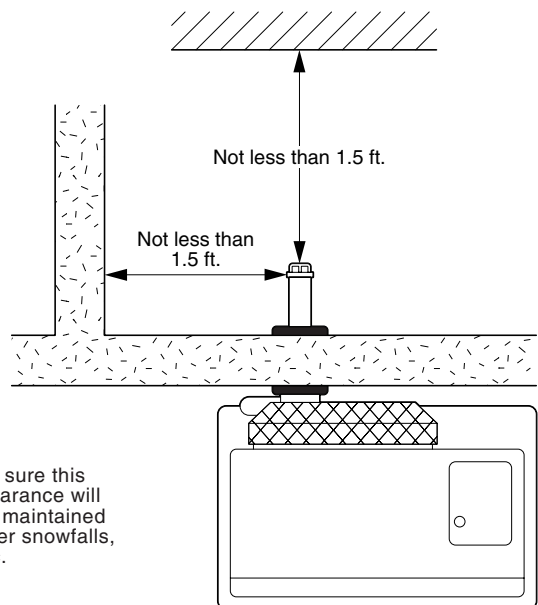

Fig. 3
①	Adjustable Exhaust Pipe Max. 19- 11 / 16 ~ Min. 12- 5 / 8	1
②	Intake Pipe (20 inch)	1
③	Insulating cloth cover (40 inch)	1
④	Pipe Holder	2
⑤	Pipe Support Hardware	1 sets
⑥	L-Shaped Exhaust Joint	1
When using the "Extension pipe (S)" extension kit, the distance between the heater exhaust pipe connection and the flue pipe connection must be at least 15-3/4 inch but no more than 22-3/4 inch. (See Figure 3 for reference.)